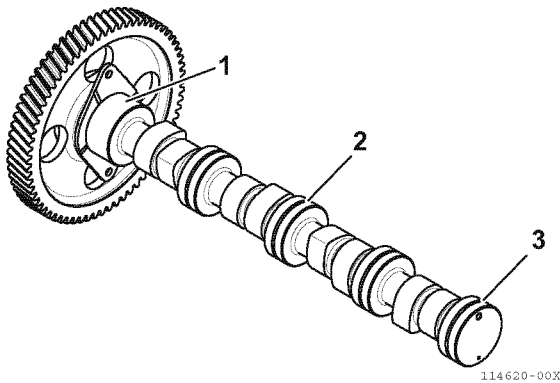

Figure 6-87
4. Measure the diameter of the gear end (1, **Figure 6-87**), intermediate (2, **Figure 6-87**), and flywheel end (3, **Figure 6-87**) bearing journals. See *Camshaft on page 6-7 for specifications*.